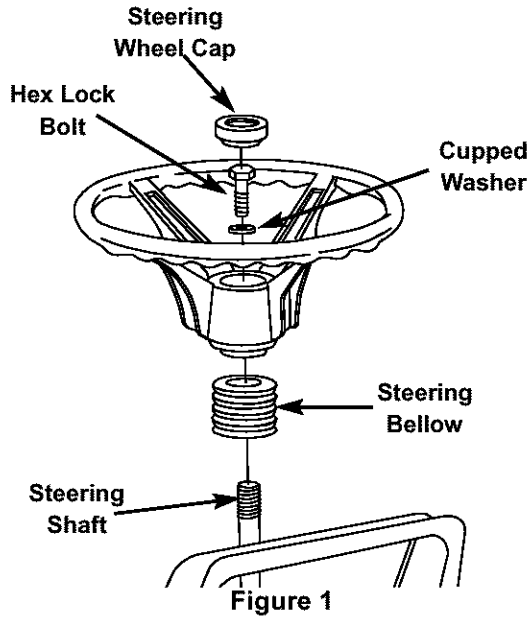

Figure 1
- Remove the steering bellow from the lift lever on the right hand side of lawn tractor. Place steering bellow over the steering shaft extending through the dash. See Figure 1.
- Place the washer with the cupped side down over the steering shaft. Secure with hex lock bolt. See Figure 1.